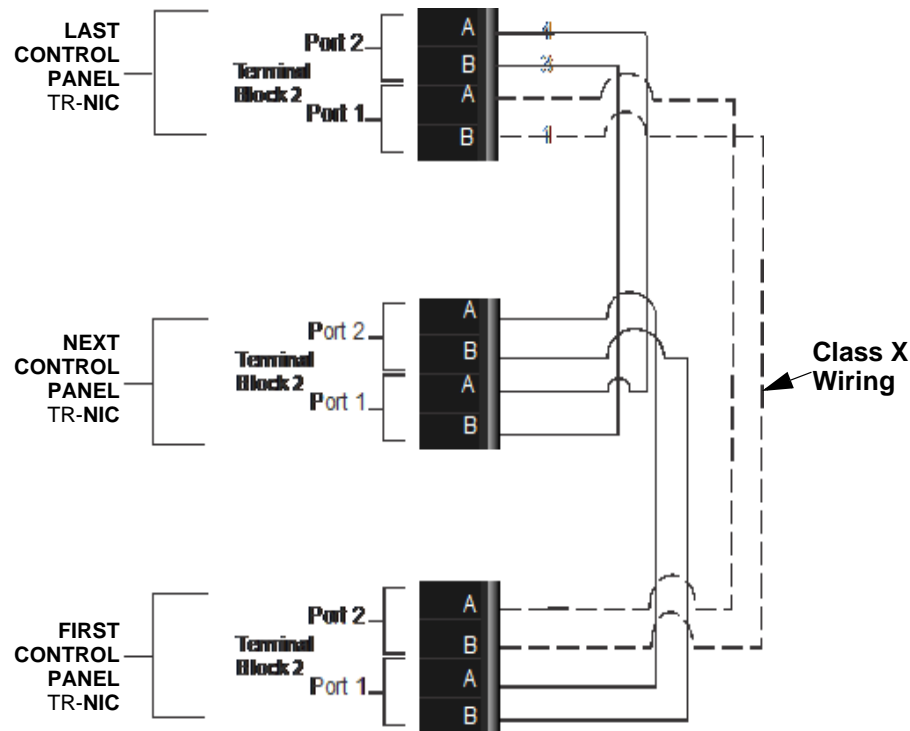
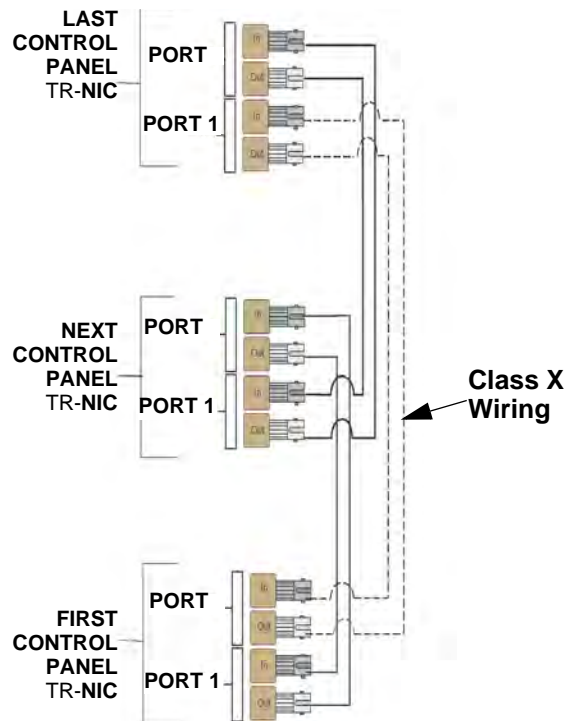
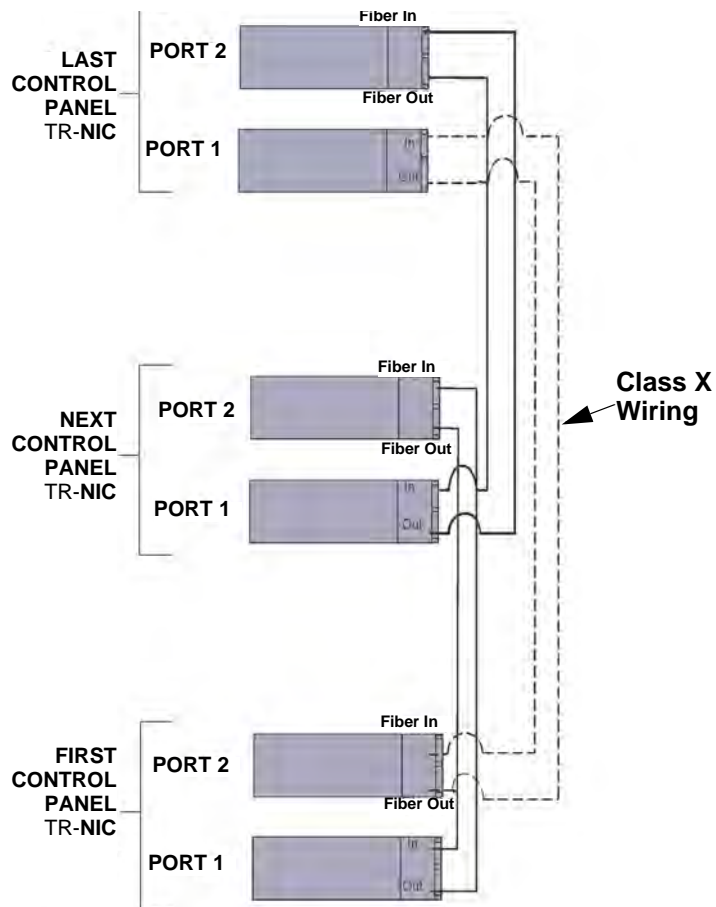
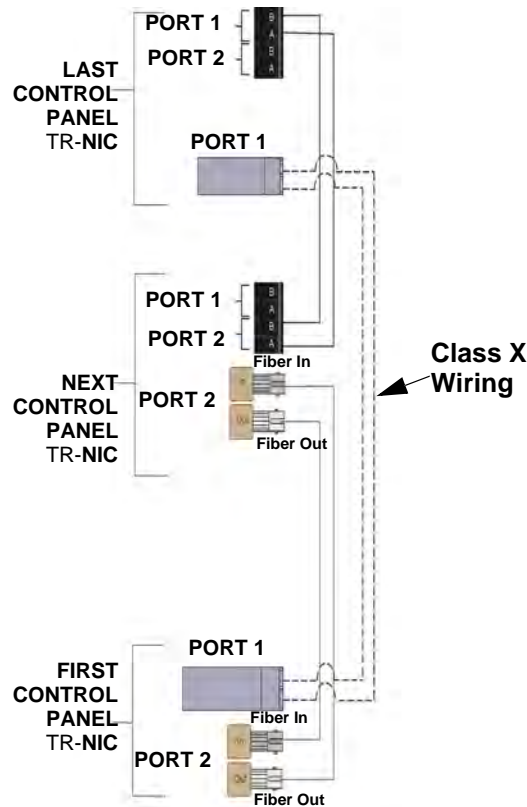

Figure 5.6 Twisted Pair Wiring Configuration
Figure 5.7 Fiber-Optic Wiring Example
Figure 5.8 Fiber-Optic Wiring Single-Mode Example
Figure 5.9 Twisted-Pair and Fiber-Optic Combination Wiring Example
5. Based on the type of data medium chosen, run the twisted pair wiring/fiber optic cable to the next TR-NIC using a Class B or Class X wiring method. A combination of both medium types can be used. See Figure 5.6, Figure 5.7, Figure 5.8, and Figure 5.9 for the TR-NIC wiring examples.
Unshielded twisted-pair wiring between multiple panels is shown in Figure 5.6. Class X wiring is shown with a dotted line.
Fiber-optic cable between multiple panels is shown in Figure 5.7. Class X is shown with a dotted line.
A mixture of fiber-optic cable and twisted-pair wiring between multiple panels is shown in Figure 5.9. Class X cabling is shown with a dotted line.